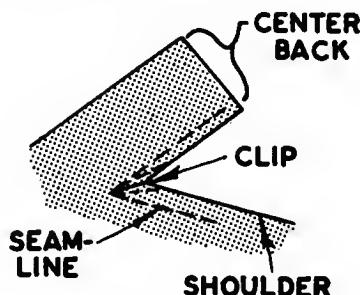

Fig. 203. Stay-stitching the raw edges.
- Stitch around the clip mark, as in Figure 203. Turn exactly at the point. Do this for both corners.